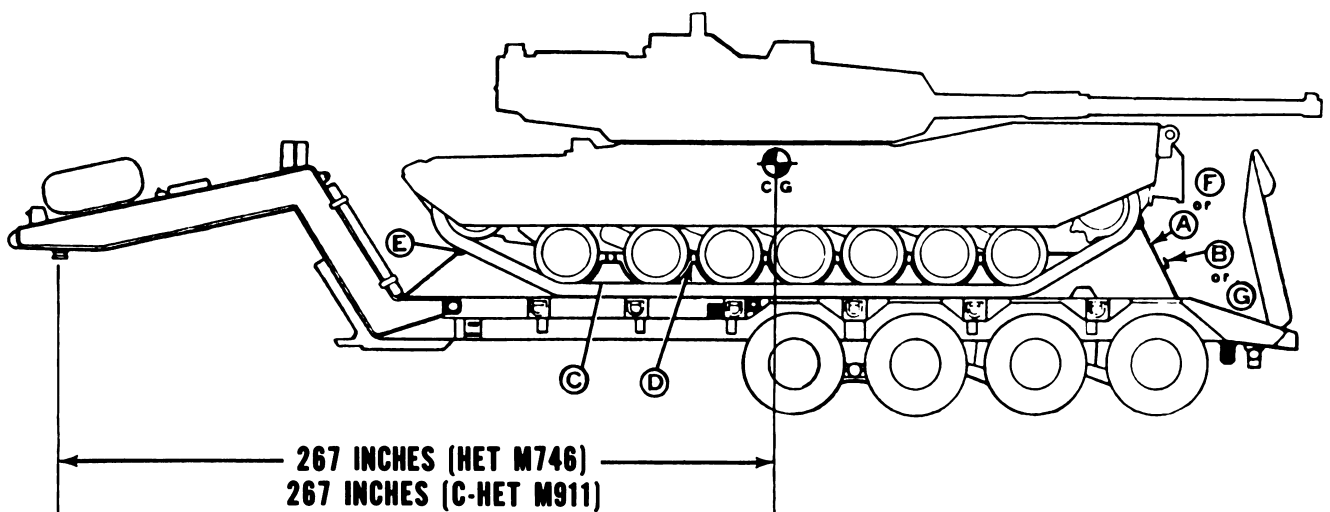
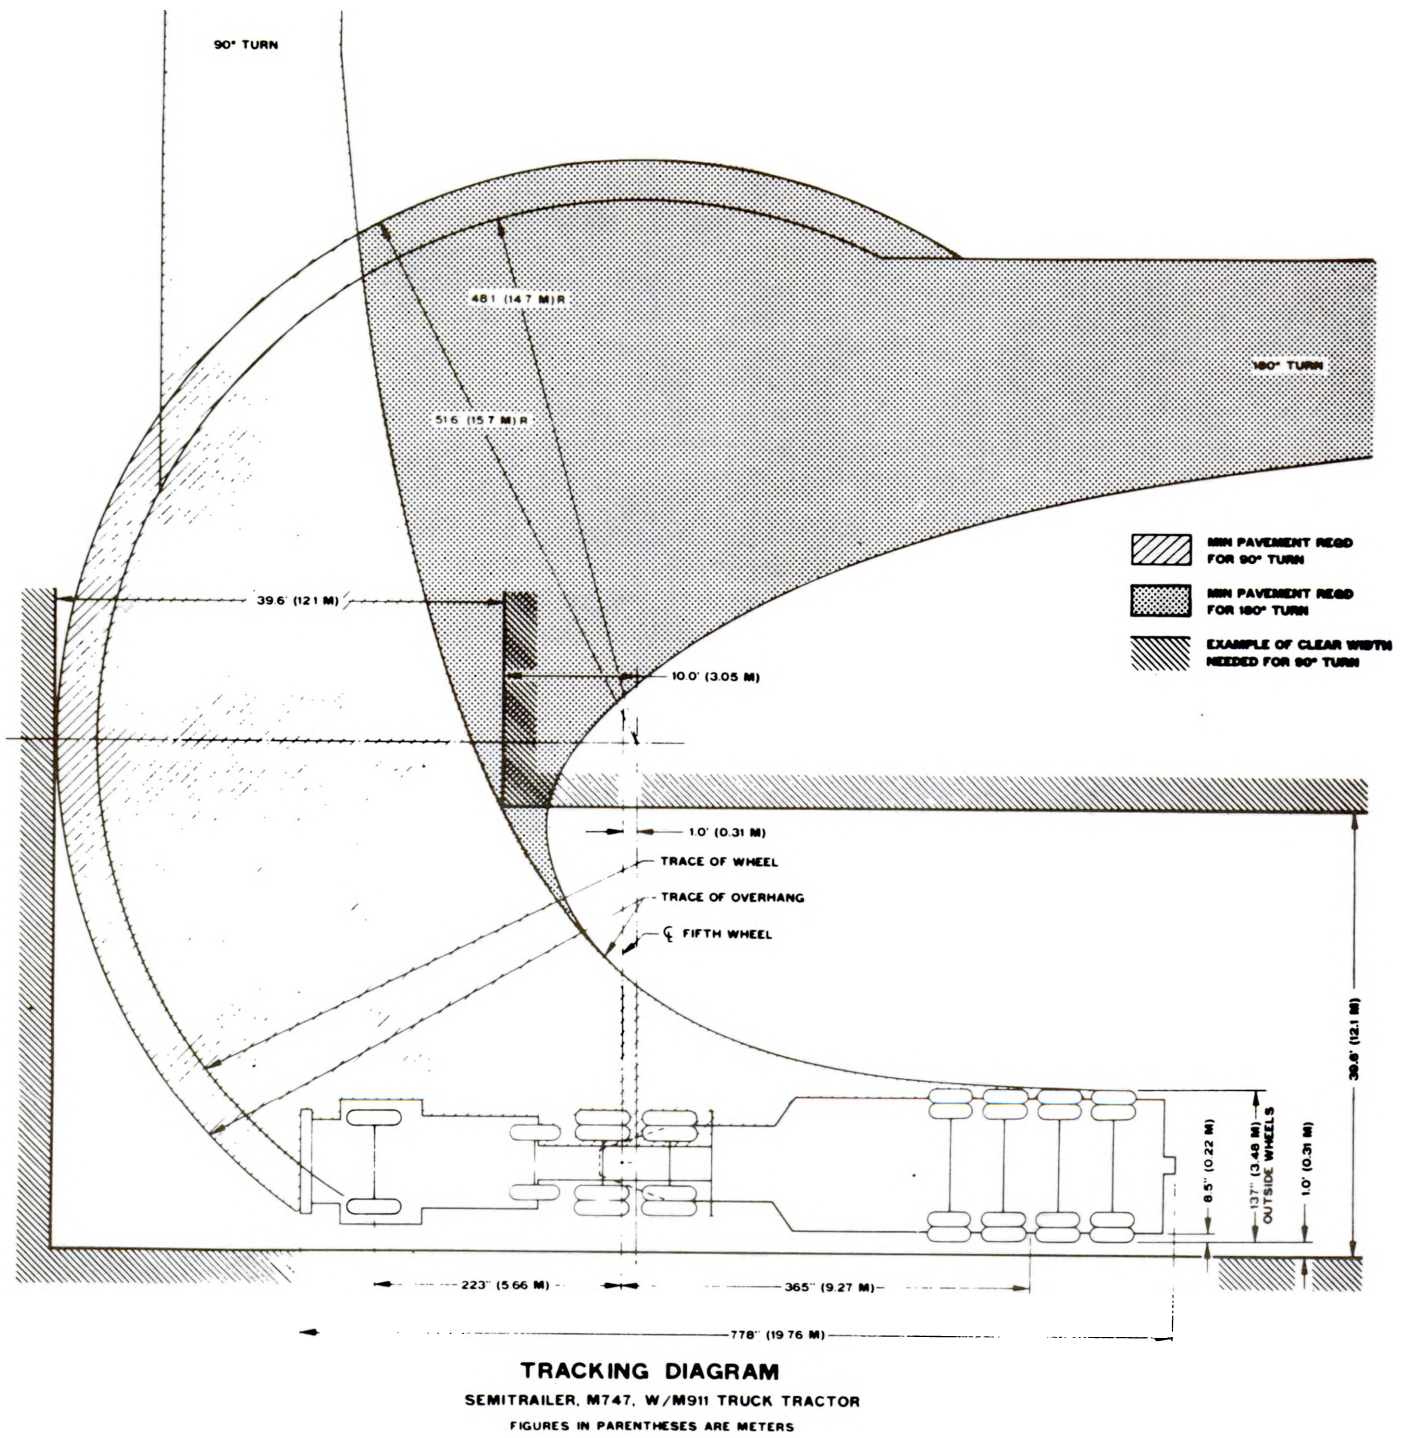

Figure 5-2. Tiedown diagram for M1-series tank on M747 semitrailer.
Figure 5-3. Turning diagram for M1-series tank loaded on M747 semitrailer towed by M746 truck tractor.
(2) The inside curbs on the deck of the M747 used to restrain sideways movement must be adjusted to fit the inside width of the tank tracks.
(3) After the vehicle is placed at the tiedown position, its transmission must be placed in the neutral position and brakes set, if appropriate.
(4) A tiedown diagram compatible with standard loading practices that will offer adequate restraint against the forces encountered during movements at normal speeds is provided in figure 5-2.
(5) Data concerning the application of materials required to restrain the vehicle are provided in table 5-2.
*h. Dimensions and turning radius diagram for route reconnaissance reference are shown in figure 5-3.*
Table 5-2. Application of Materials for Tiedown of M1-Series and M747 Semitrailer (Fig 5-2)